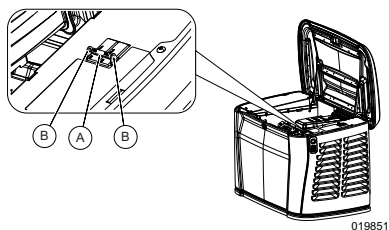

Figure 3-4. Main Line Circuit Breaker (MLCB)
See Figure 3-4. This is a 2-pole main line circuit breaker (MLCB) (generator disconnect) (A) rated according to relevant specifications.